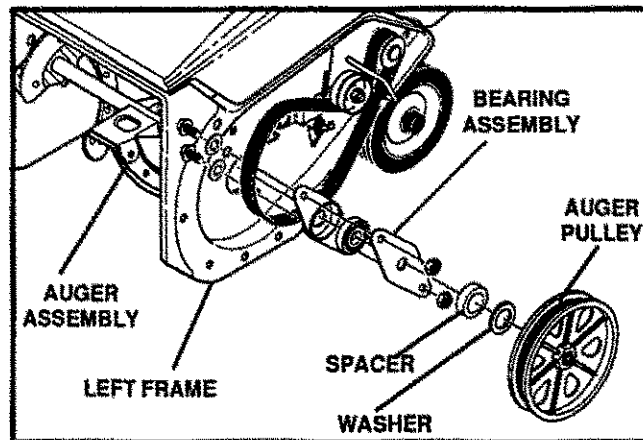

FIG. 7-SERV & ADJ
- Remove the auger pulley (See FIG. 7-SERV & ADJ) from the auger shaft (threads are left hand; turn clockwise to remove and place a piece of wood (2"x4") on the center paddle area to secure the auger to keep it from turning). NOTE: When unscrewing the pulley hold the idler pulley down.
- Remove the bearing assembly from the left frame of snow thrower by removing the (2) nuts.